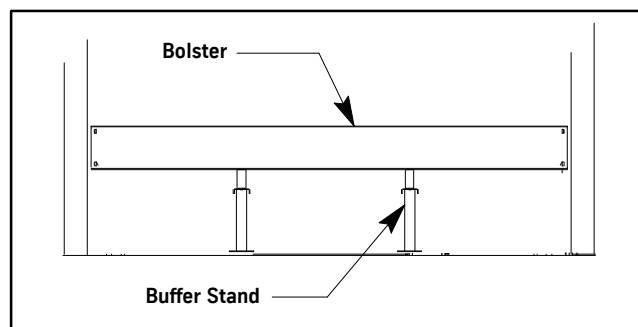

Figure 13
1. Place the bolster assembly directly on the buffer stands. See Figure 13.